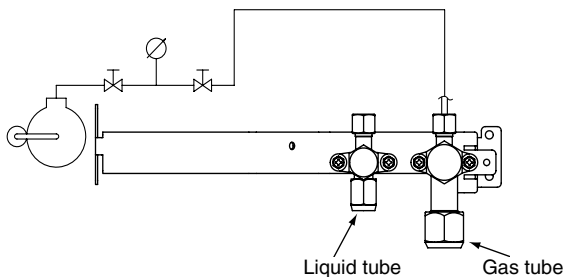

Fig. 10-2
- (6) Both the gas and liquid tube service valves are open. If not, open them now. (Fig. 10-2)